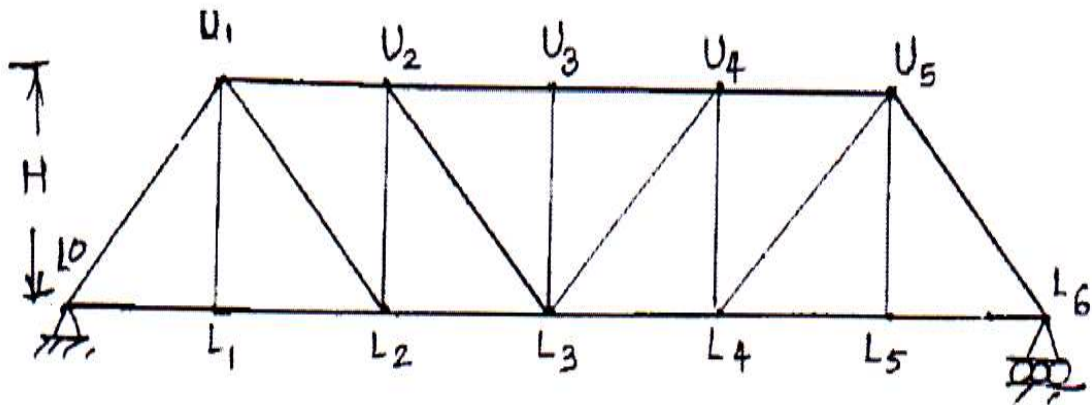

Fig.7 6panels @4m each
- Q7)** Using channel sections, design the members U2-U3, U2-L3 and U3-L3 for the railway steel truss bridge shown in Fig. 7. Also draw a neat sketch of the connection of members at U3, [25]
- Q8)** For the railway bridge shown in Fig. 7, design the top and bottom lateral bracing with the given data. The rails are 850 mm above the c.g. of bottom chord. The chord members are 500 mm deep and 600 mm wide. The end posts are 475 mm deep and 475 mm wide. The web members are 475 mm deep and 240 mm wide. [25]